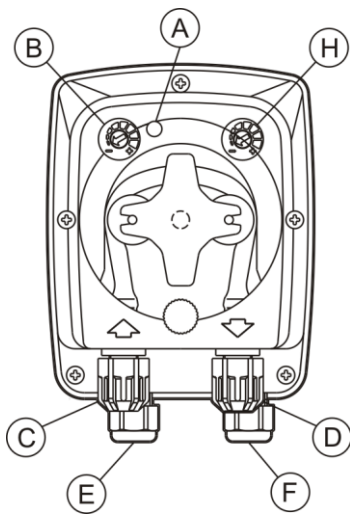

FIG. 1
TECHNICAL CHARACTERISTICS (FIG.1)
1T/2TT pump is equipped with 1/2 power supply cables for temporized dosing, the pump is Multivoltage 24-230 VAC 50/60Hz (see fig.1)
The pump is equipped with 1 Led (A), just up the time-control trimmer (B) (H) (see fig.1)